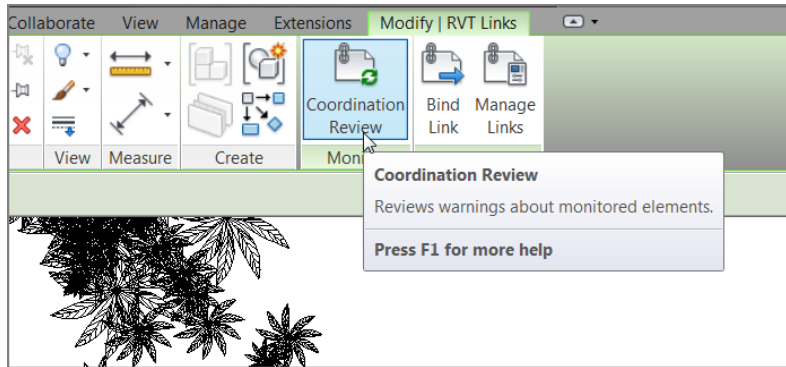

FIGURE 20.12: The Coordination Review button on the Monitor panel of the Modify | RVT Links tab
9. On the Monitor panel of the Modify | RVT Links tab, click the Coordination Review button, as shown in Figure 20.12.